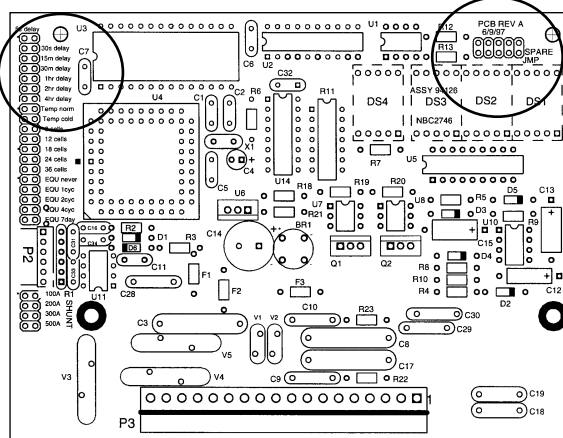

FIGURE 3.2-Precharge delay
- 4) Move the jumpers to the desired setting, referring to Figure 3.2.